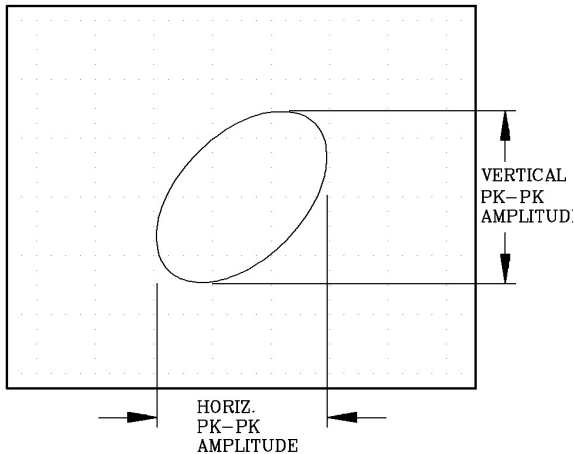

Fig. 2.2
8. Observe the oscilloscope display. An orbit should be displayed similar to Figure 2.2. Vertical and horizontal vibration amplitudes may be obtained as shown.